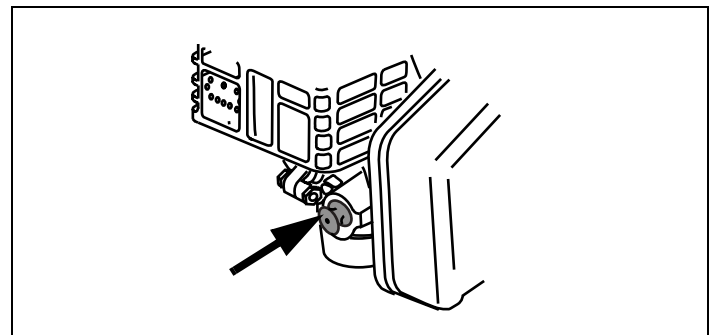

Figure 21. OH195EA/EP/XA/XP Primer Bulb
3. When starting a cold engine, push primer bulb firmly with your thumb 3 times, allowing primer bulb to return completely to original position between pushes. See Figure 21.